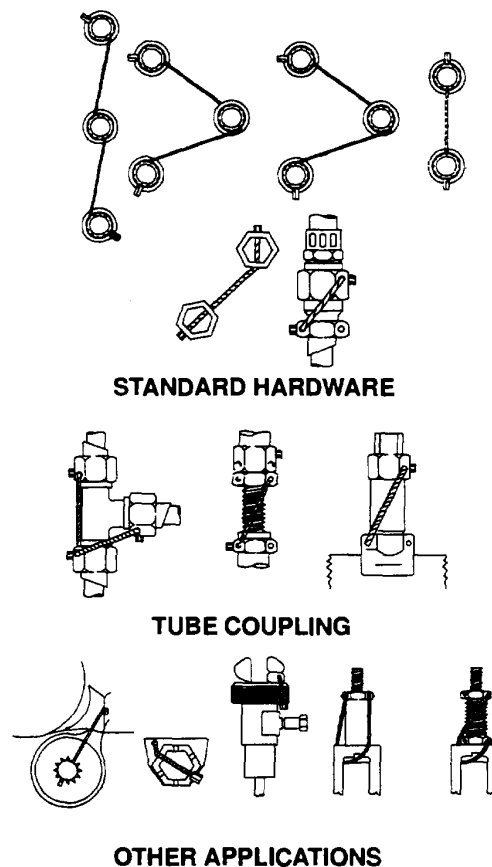

Figure 2-90. Examples of Installed Safety Cable
e. *Examples of Installed Safety Cable* See figure 2-90.